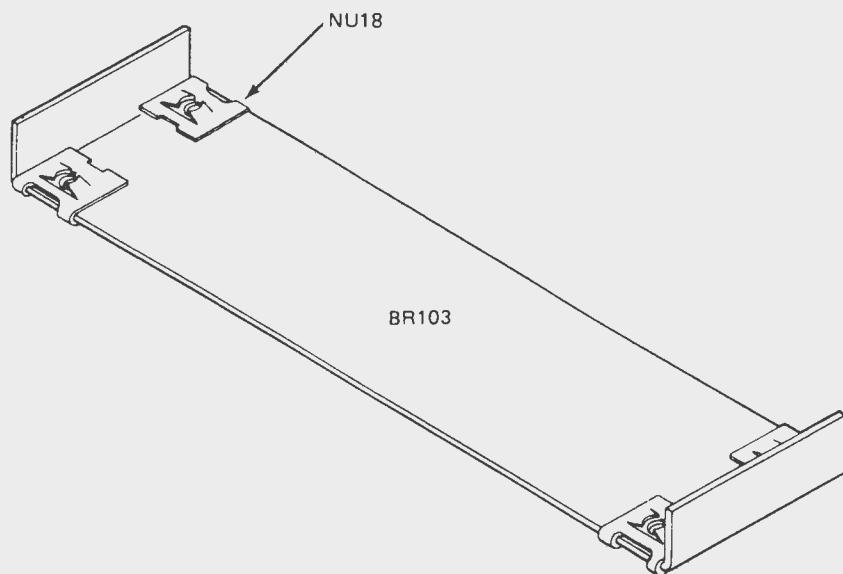

Fig. 17. The alignment bracket with four Tinnerman nuts in place.
(11) Now locate the two cabinet alignment brackets (BR103) and mount four Tinnerman nuts on the brackets over the four holes as shown in Fig.17. The raised portion of the Tinnerman nut goes on the inside of the U-shaped brackets .....( )